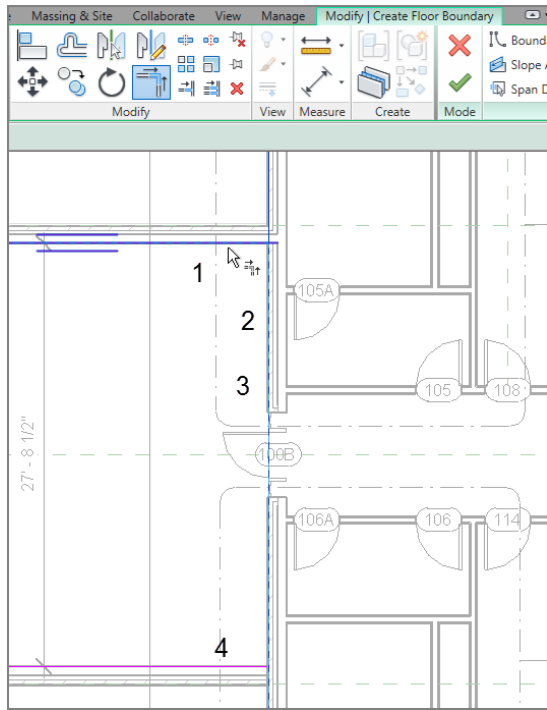

FIGURE 6.16: Pick the magenta lines in the numbered order illustrated in the figure.
1. Pick the Trim/Extend To Corner button from the Modify panel, as shown at the top of Figure 6.16. Then click the portions of the two lines you want to keep. This removes the excess from the corner.